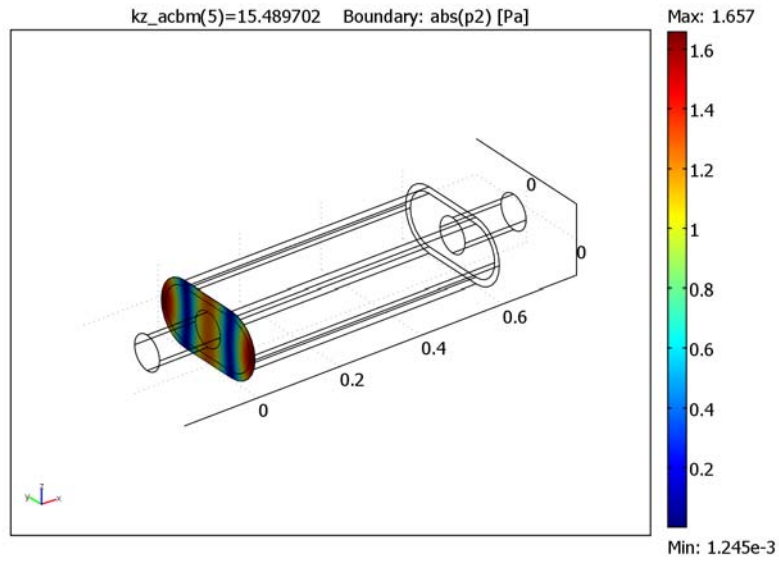

Figure 3-3: The chamber's first symmetric propagation mode. The plot shows the absolute value of the pressure.
At frequencies higher than approximately 1250 Hz, the plot's behavior is more complicated and there is generally less damping. This is because, for such frequencies, the tube supports not only longitudinal resonances but also cross-sectional propagation modes. The first propagation mode that is excited is symmetric with respect to both the y -axis and the z -axis. Figure 3-3 shows this mode, which for an infinitely long chamber occurs at 1239 Hz. Not very far above this frequency a whole
- 7 Click the **Go to YZ View** button on the Camera toolbar to the left of the drawing area. Take a quick glance at Figure 3-3, which shows the true shape of the corresponding eigenmode for an infinite tube with the same cross section as the chamber; this should resemble what you have. In the last exercise for this model you reproduce the eigenmode calculation.